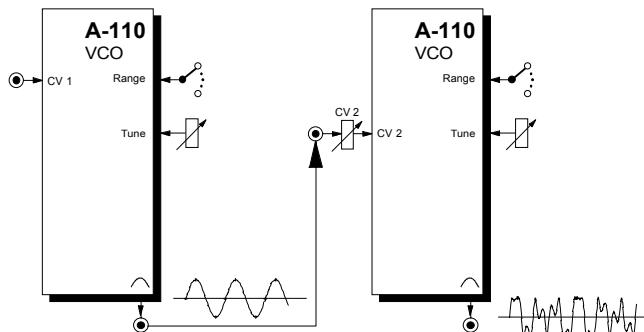

Fig. 7: Frequency modulation in the audio range
For exponential FM, patch the modulation voltages into **CV input ① or ②** (see Fig. 7).